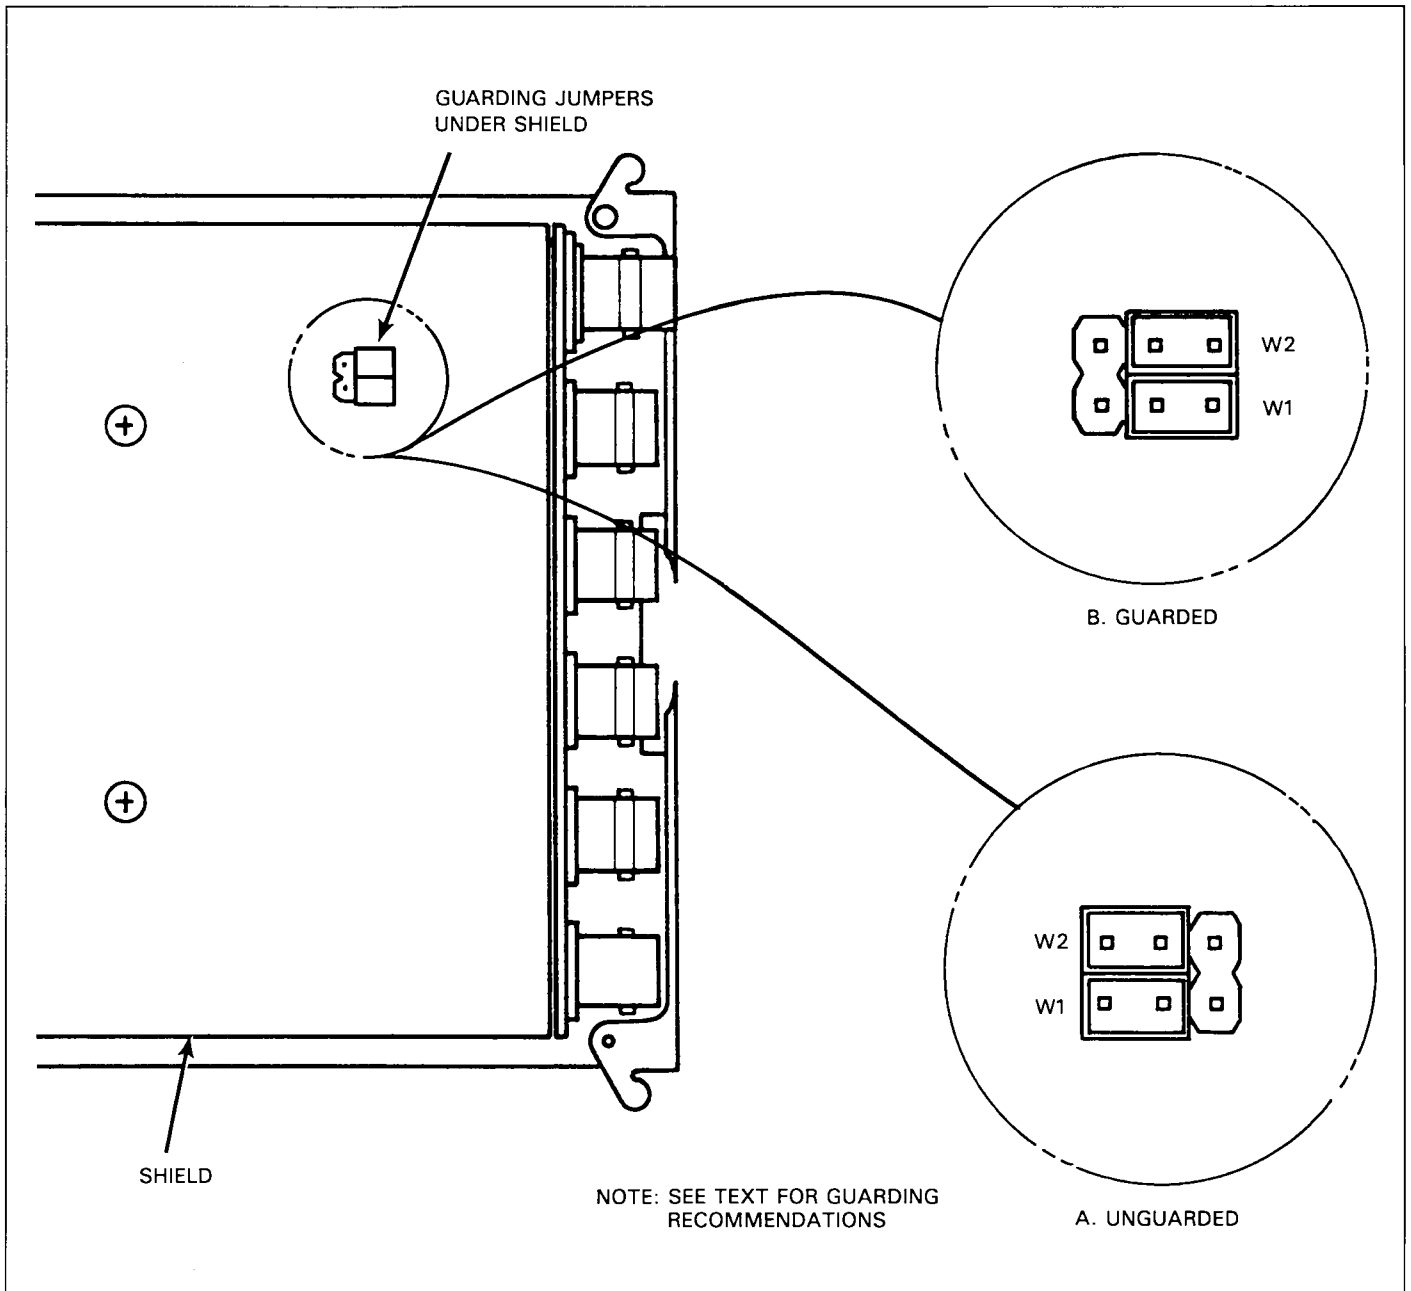

Figure 2-21. Guarding Jumper Configurations
As shown in Figure 2-21, two jumpers set up the current source input for either unguarded or guarded operation. The jumper configurations shown at the top of the diagram indicate which of two configurations apply as follows:
3. Place the two jumpers in the desired position(s), as shown in Figure 2-21. Use a pair of needle-nose pliers to avoid touching the PC board.